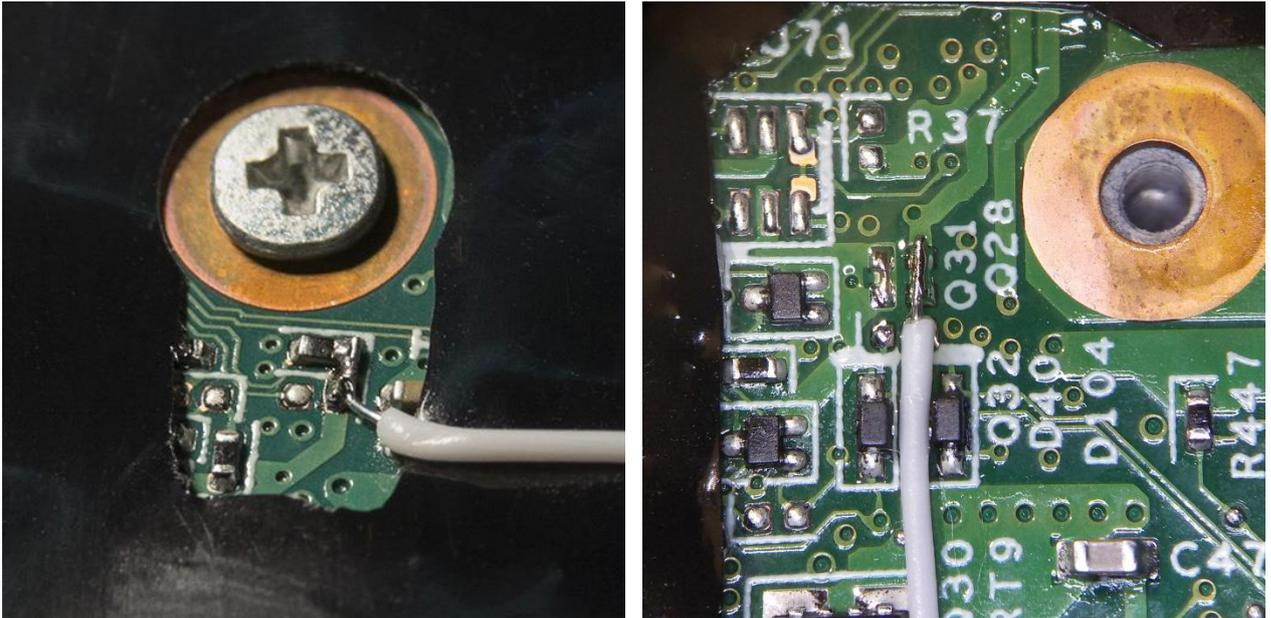

Figure 14. Auxiliary power wire soldered to X220 (on the left) and X230 motherboard (on the right)
1. Find the corresponding pad on the motherboard (see figure 14);